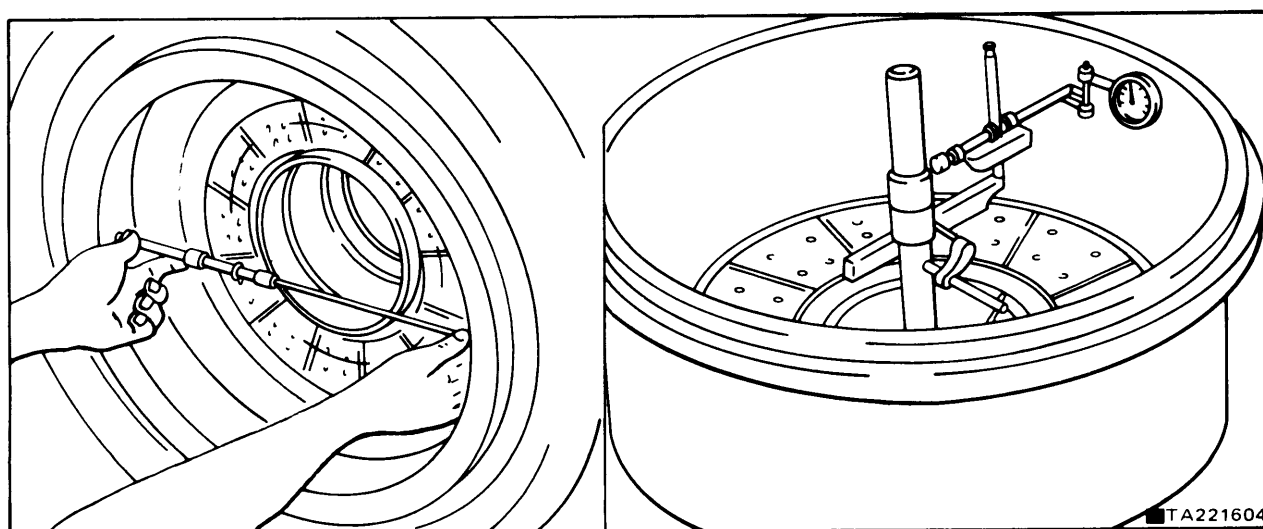

FIGURE 8-5. CHECKING FOR OUT-OF-ROUNDNESS.
- c. Recondition out-of-round brake drums. Check with inside micrometer or dial indicator (see figure 8-5). All out-of-round condition should be corrected.